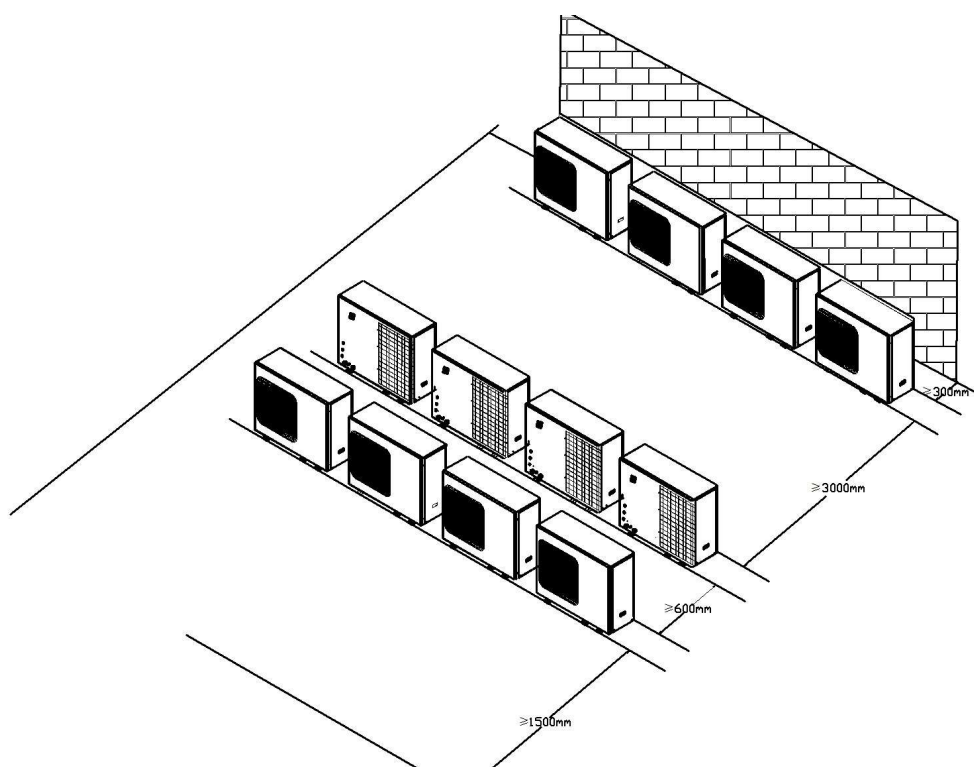

Figure 4-11
2. Multi-row installation for roof, etc.(See Figure 4-11 below for details).